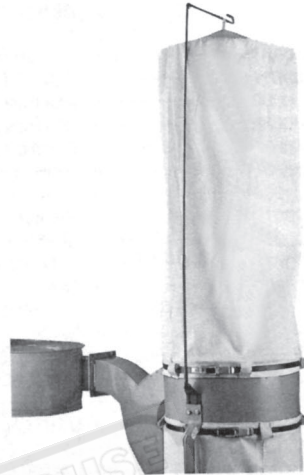

Fig.6
- 6 Thread a lower hanger into an upper hanger. Attach upper hanger bracket hook to a filter bag loop found on the top of the filter bag. Place the hanger into the hanger bracket. Slide a retainer strap through keepers and attach to the housing. Repeat for the other side. See Figure 6 (next page).